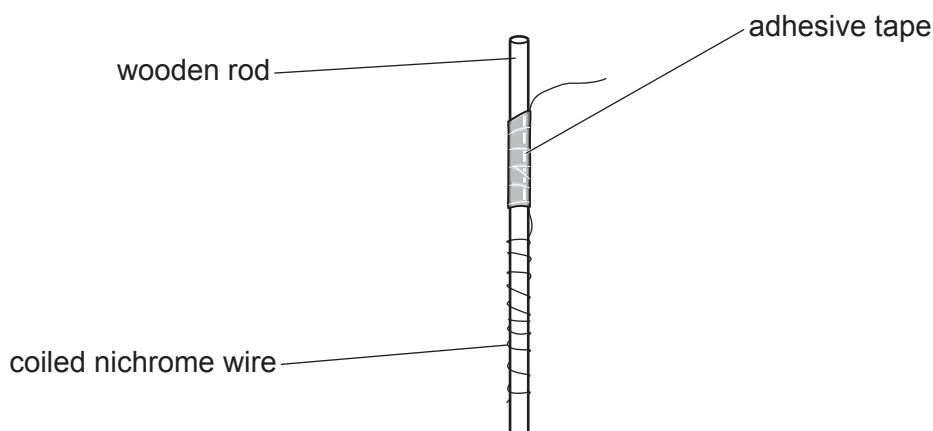

Fig. 4.1
2. To make one electrode, cut a 30 cm length of 28 s.w.g. nichrome wire. Coil 25 cm of the wire around the bottom half of a wooden rod (12 cm × 0.5 cm). The coils should be evenly spaced and not touching. Attach the remaining 5 cm of the wire to the rod using adhesive tape as shown in Fig. 4.1. Both electrodes should be made in the same way.